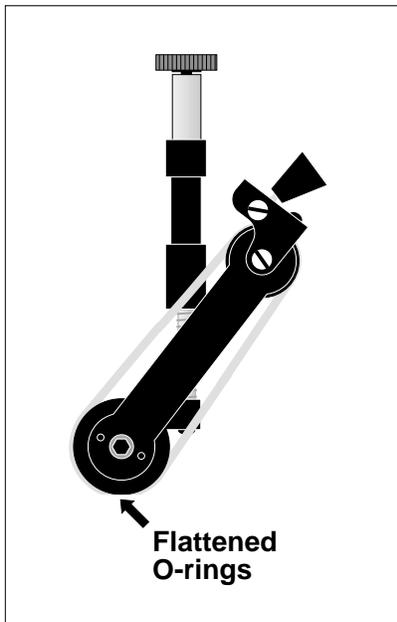

Figure 5-1. Advancing O-Ring Gate
- Advancing O-ring, or standard O-ring gate: Flat areas along the O-rings (Figures 5-1 and 5-2, respectively).